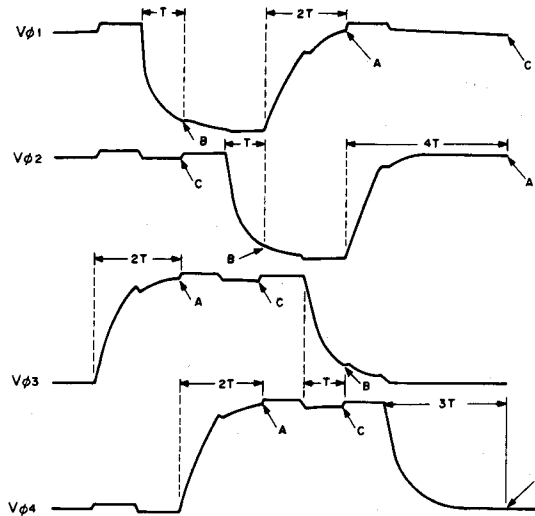

Fig. 6 Vertical transfer clock waveform
2. Vertical clock voltage (Refer to Fig. 6)